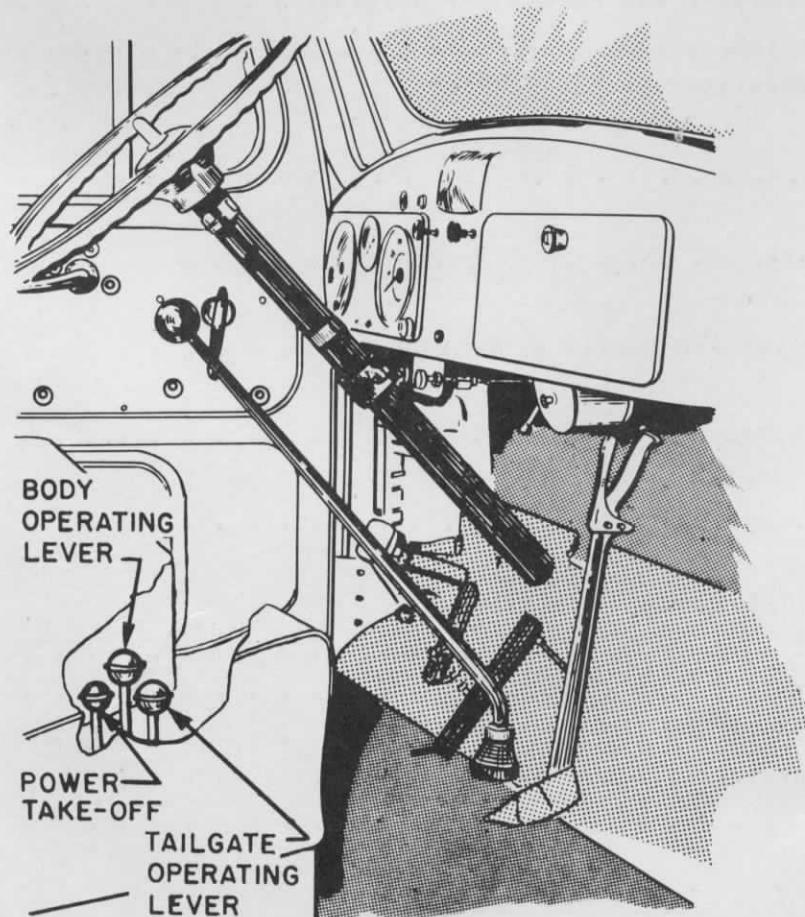

FIG. 1
- (a) The Power Take-Off engagement knob as shown in Fig. 1.
- * (b) Tailgate Operating Lever (raise and lower) as shown in Fig. 1.
- * (c) Body Operating Lever (raise and lower) as shown in Fig. 1.
TO ENGAGE POWER TAKE-OFF (Fig. 1)
- a. Release hold down clamps securing tailgate to the body (Fig. 1).
- b. Engage Power Take-Off (Fig. 1).
- c. Place tailgate lever in up position. When tailgate is fully raised it will automatically stop (Figs. 1 & 3).
- b. Place body lever in up position (outside lever). When fully raised body will stop automatically or can be stopped at any height by releasing body lever (Figs. 1 & 3).